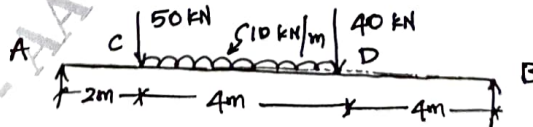

Fig.Q3(b)
- b. Draw bending moment diagram and shear force diagram for the given beam shown in Fig.Q3(b). (14 Marks)